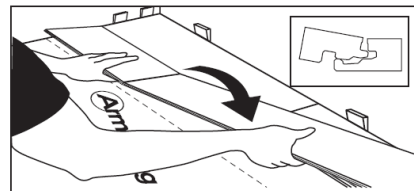

Fig. 13
3. Continue installing full boards in the second row by angling the short end of the next board in the row to lock into the previous board (**Fig. 13**). Position the board so that the long side of the board is close to boards in the previous row and overlapping the groove of the boards in the previous row.